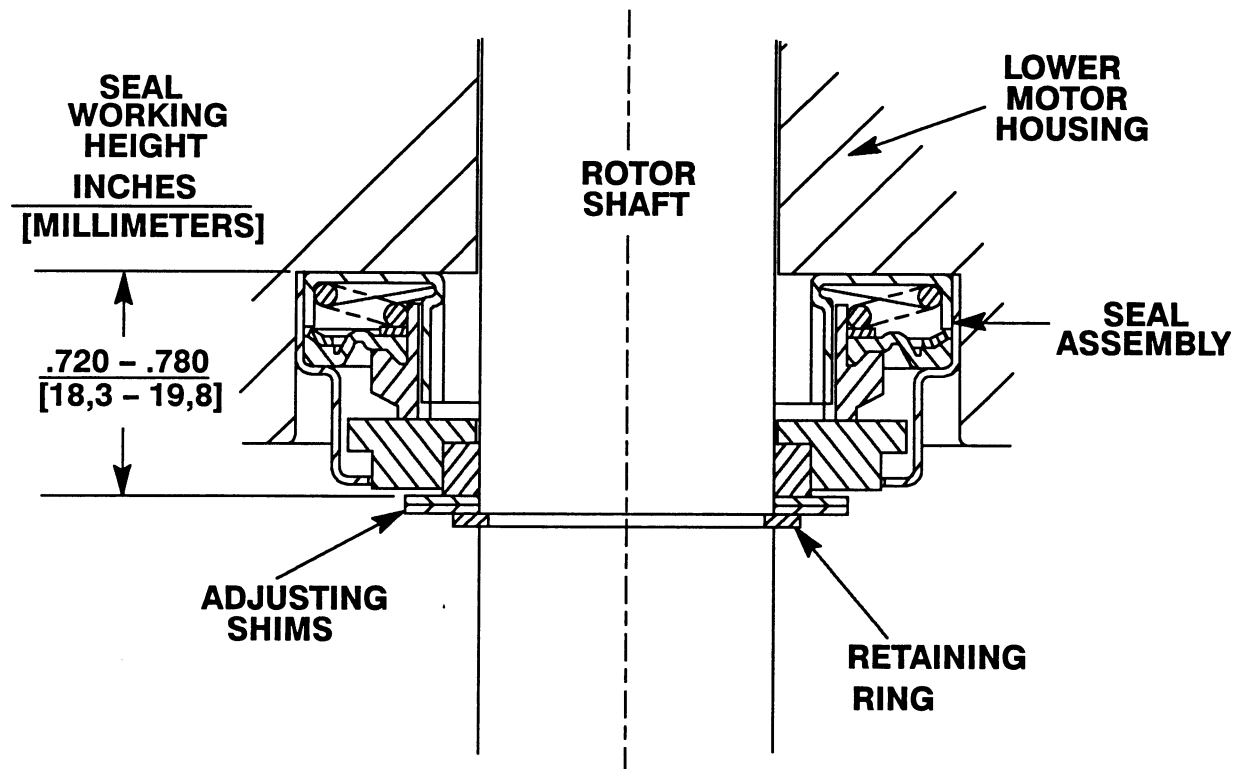

Figure 7. Upper Seal Assembly 25276-031
bore in the intermediate to determine the required shim thickness. This distance is measured from the bottom of the bore in the intermediate to the motor side of the retaining ring (36). Select the required combination of shims to obtain a seal working height of 0.720 to 0.780 inches as shown in Figure 7.